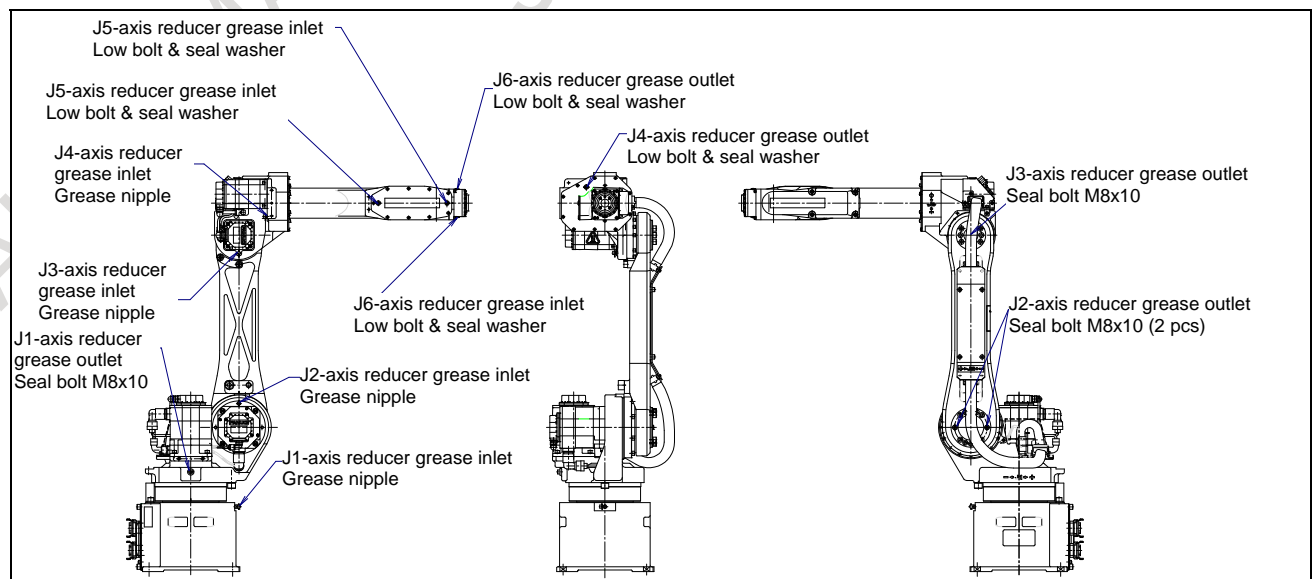

Fig. 3.1 (a) Greasing points
- ii) See Fig. 3.1(a) and Table 3.1 (a) for greasing points and the method.
Follow the procedure stated below to replace the grease in the J1, J2, and J3-axis reducers and the J4 and J5-axis gearboxes at the intervals based on every 3 years or 11520 hours, whichever comes first. See Fig. 3.1(a) for greasing points.
- 1) Remove the seal bolts from the J1, J2, and J3-axis grease outlets shown in Fig. 3.1(a). Also remove the flat-bolts and sealing washers from the J4 and J5-axis grease outlets.